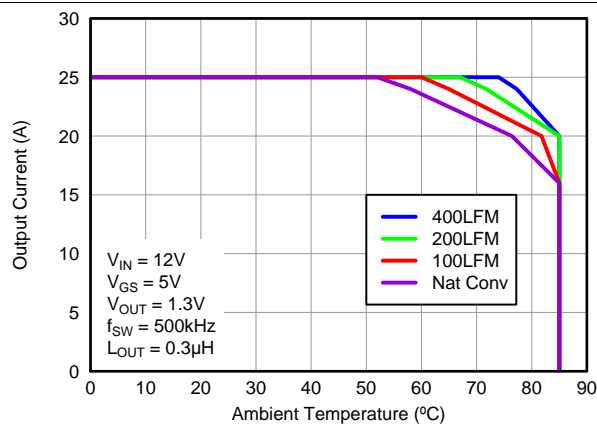
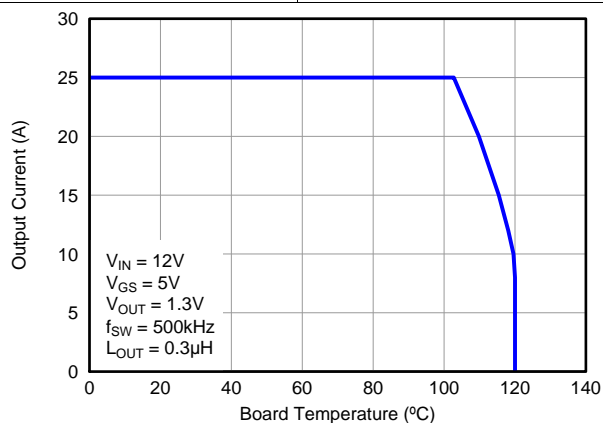

Figure 3. Safe Operating Area – PCB Vertical Mount⁽¹⁾
Figure 5. Typical Safe Operating Area⁽¹⁾
The SOA curves in the CSD87352Q5D data sheet provides guidance on the temperature boundaries within an operating system by incorporating the thermal resistance and system power loss. Figure 3 to Figure 5 outline the temperature and airflow conditions required for a given load current. The area under the curve dictates the safe operating area. All the curves are based on measurements made on a PCB design with dimensions of 4 in (W) x 3.5 in (L) x 0.062 in (T) and 6 copper layers of 1-oz copper thickness.